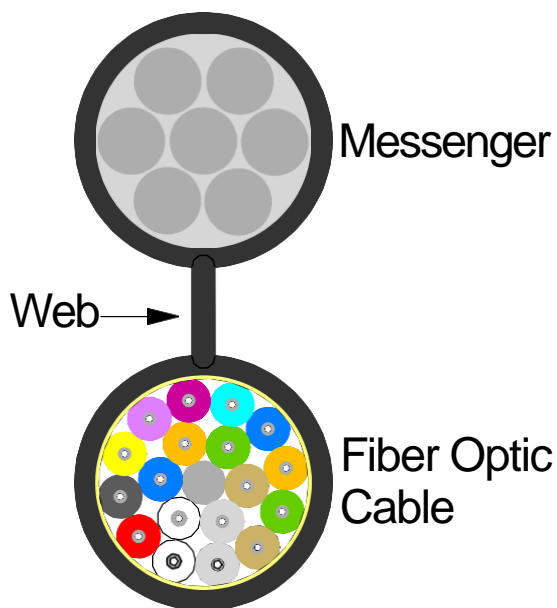

Figure 8 Installation Instructions
A figure 8 fiber optic cable design incorporates a steel or dielectric messenger into the fiber optic cable thus, eliminating the need to lash a fiber optic cable to a messenger. A figure 8 fiber optic cable consists of three components: the messenger, the webbing, and the fiber optic cable.
A figure 8 messenger cable has several advantages. Installation material cost may be reduced by eliminating the need to purchase a separate messenger wire and lashing wire. The labor cost can be greatly reduced in that there is only one installation job, installing the figure 8 cable. This compares with two installation jobs required when first the messenger must be installed, and then the cable installed by lashing it to the messenger. Typically, the overall cost of the installation may be reduced by as much as 40 %.
The OCC figure 8 cables are also uniquely available in an all dielectric configuration. This may eliminate issues of use near other cables or reduce the possibility of lightning strikes in high lightening areas.
Some precautions to installing figure 8 cables include the following:
- Maintain the minimum bending radius (MBR). The minimum bending radius for Optical Cable Corporation's figure 8 cables are as follows:
Dead ends maintain the tension in the cable. A typical dead end consists of spirally formed high strength steel wires which are installed to the bare messenger wire of the figure 8 cable.
Installation – Figure 8 Guidelines Excerpt from Optical Cable Corporation's *Installation Guide*
Tangent support clamps are used to support the figure 8 cable where limited tension is applied to the figure 8 cable. Various types of tangent support clamps, typically 3-bolt designs, are available such as Type C, Corner Suspension Clamps, etc. Please consult the tangent support clamp manufacturer for pull tolerances, sizes, and angle departure.
Installation – Figure 8 Guidelines Excerpt from Optical Cable Corporation’s *Installation Guide*
In the stationary reel method, the figure 8 cable is pulled into place using rope and stringing blocks placed at each pole along the route. The radius of the stringing blocks must meet the minimum bending radius (under installation load or short term load) of the cable.